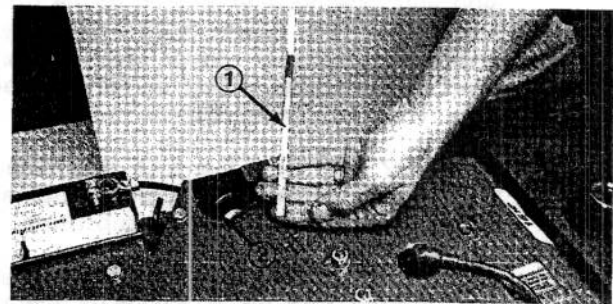

Figure 15
3. Remove dipstick and wipe it with a clean rag. Push dipstick down into the filler neck and make sure it is seated fully. Pull dipstick out of filler neck and check level of oil (Fig. 15). If oil level is low, add enough oil to raise level to FULL mark on dipstick.